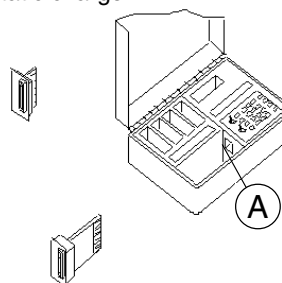

Figure 9: Trip Units with Rating Plugs
11. LIGHTLY touch rating plug connector board to metal grounding surface (A, Fig. 9) next to power cord receptacle of test set to discharge any accumulated electrostatic charge.
14. Grasp adapter firmly and touch adapter connector board lightly against metal grounding surface (A, fig. 9) next to power cord receptacle.